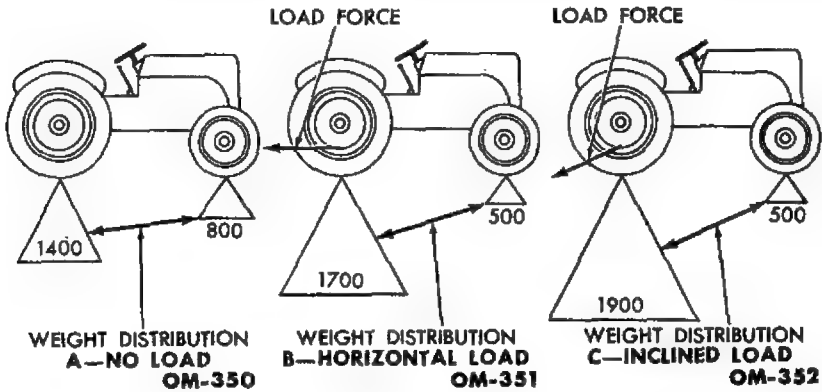

Fig. 16—Vertical Hitch Adjustments
a. Vertical Hitch Adjustment. The load hitch point is above the center of pull when using a drawbar. This hitch position reduces front wheel weight and increases rear wheel weight. Additional traction is obtained from this weight transfer. This additional traction results in less rear wheel slip and therefore effects a saving in fuel. Compare fig. 16 A, B, and C.